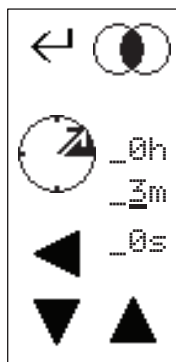

Figure 3-18 Time Windows Settings menu
1. Touch the Time Windows icon from the Method Settings menu to open the menu (Figure 3-18).